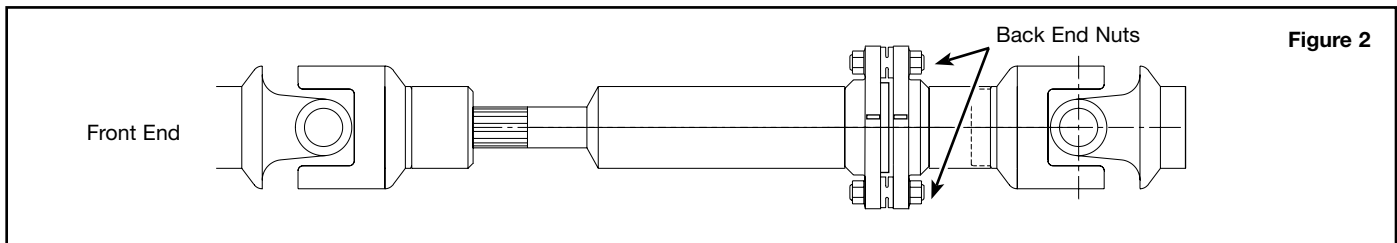

Figure 2
3. Install the torque fuses one at a time. Tighten the back end nuts only as you are installing them (Figure 2).